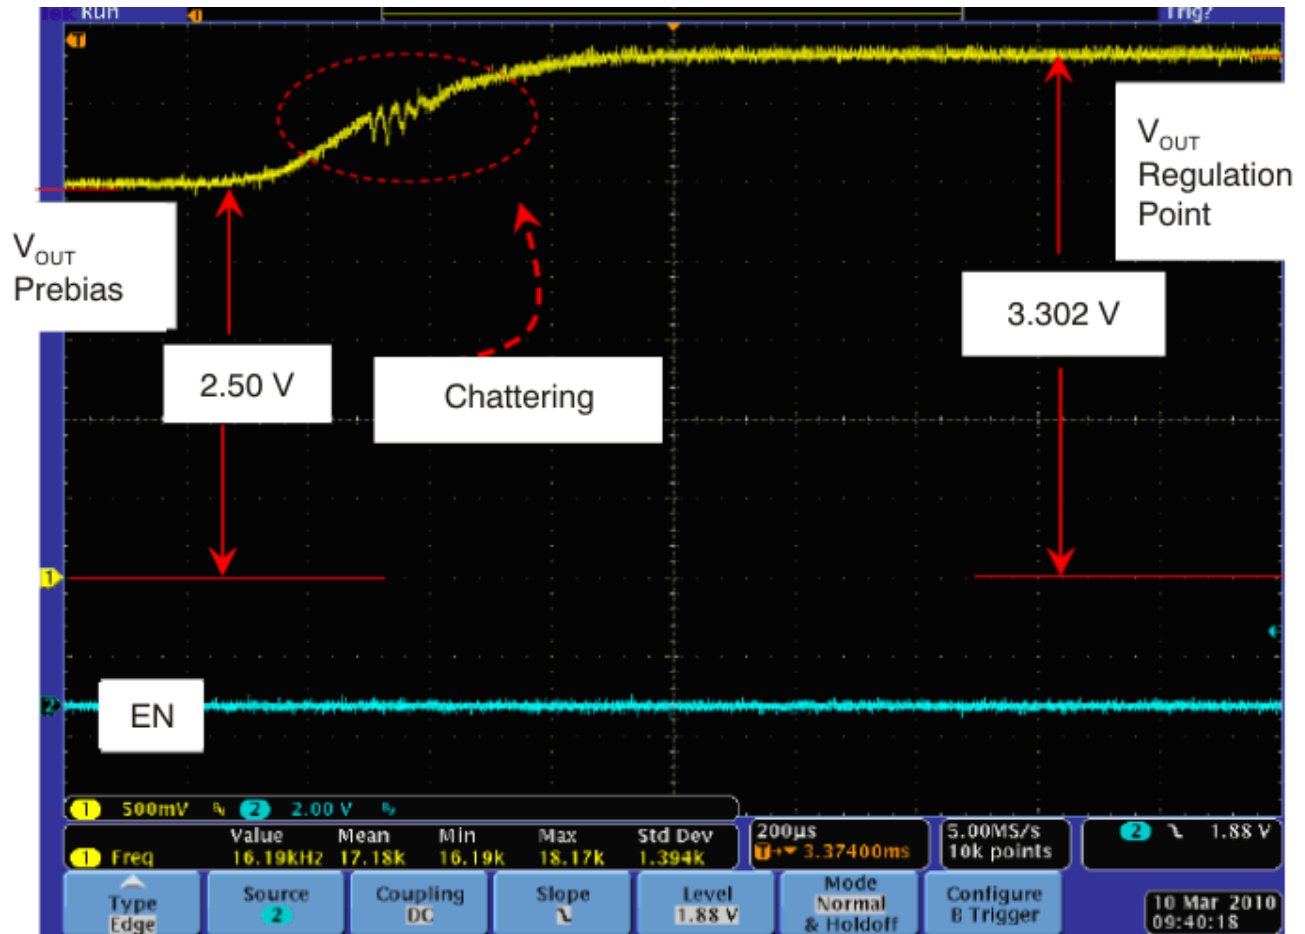

Figure 4. Case 2-1: Chattering Observed During V_{OUT} Turn-On
- These two violations result in a V_{OUT} turn-on with chattering observed, as shown in Figure 4.